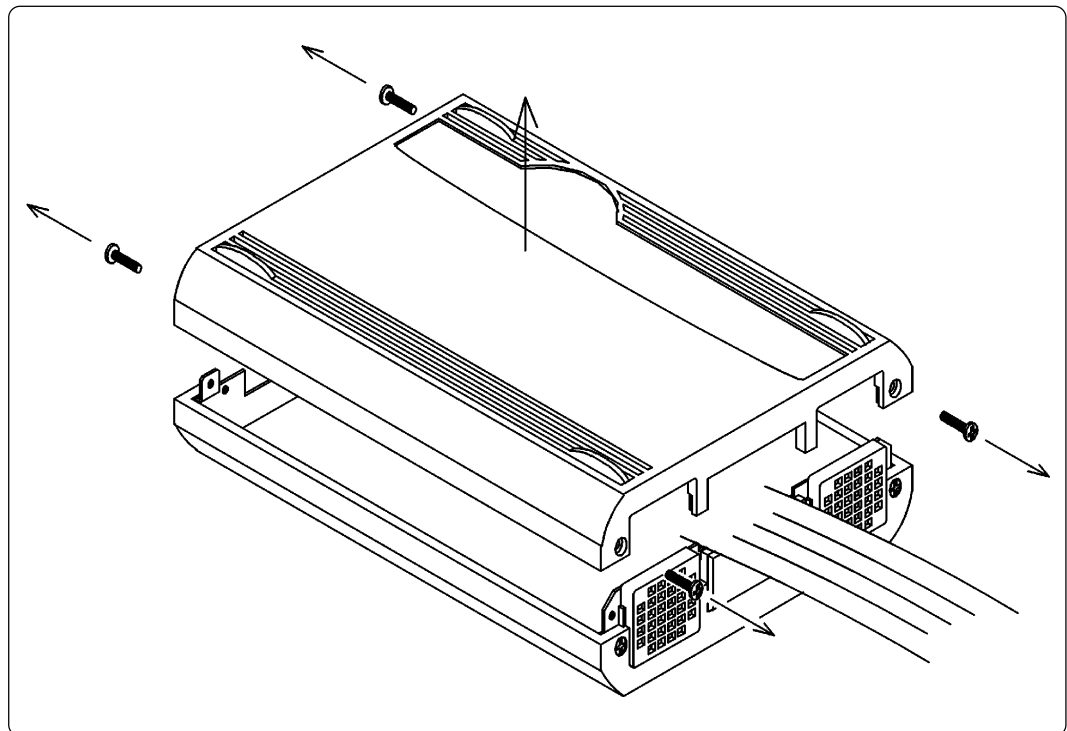

Figure 3.1 Removing the upper cover
- (1) Remove the four screws of both sides of this product and lift off the upper cover (see Figure 3.1).
- (2) Change the oscillation frequency in the emulation pod as described in "3.2 Selecting Clock Supply" on pages 23 to 26.
- (3) Replace the upper cover and secure the four screws.